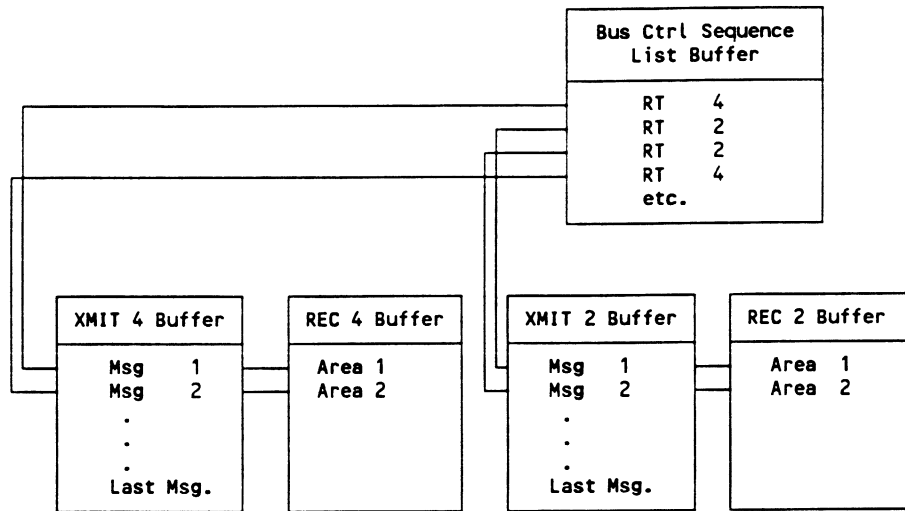

Figure 453-3: Bus Controller Simulator Example
Figure 453-3 is a simplified memory map to aid in understanding how the various buffers are set up and interact.
- 2) After the transaction for buffer 4 is completed, the 53A-453 Card takes the next item in the Bus Controller Sequence List. In the example in Figure 453-3, this would be buffer 2. The sequence of events described in Step 1 is repeated, and message 1 in transmit buffer 2's transmit buffer is transmitted.
NOTE: Although Figure 453-3 refers to "Area 1" and "Area 2" for the receive buffers, you only need to allocate a total size for each receive buffer. The card will sequentially load consecutive RT responses. That is, message 2 is loaded immediately following message 1, followed by message 3, etc.